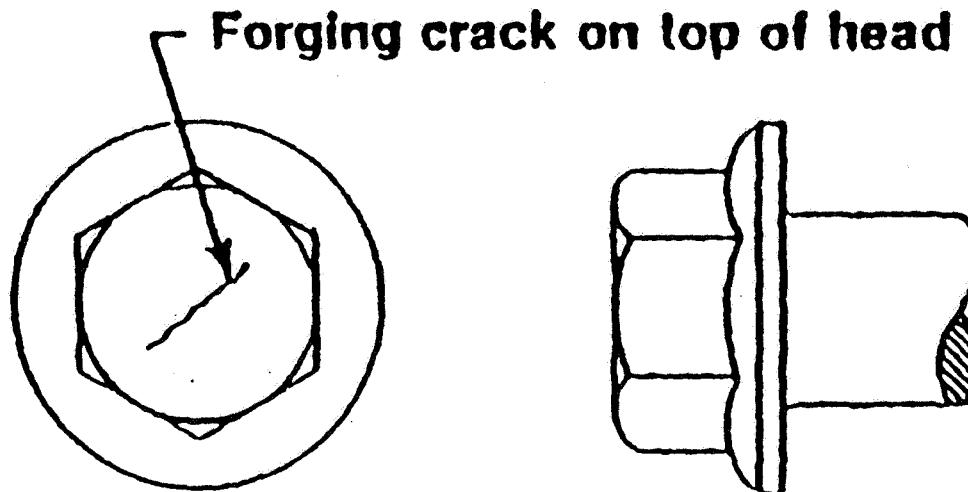

Figure 81 - Typical Forging Cracks
- ▶ **No crack shall have a width or depth exceeding $0.04 \times$ the basic major thread diameter. (See Figure 81.)**